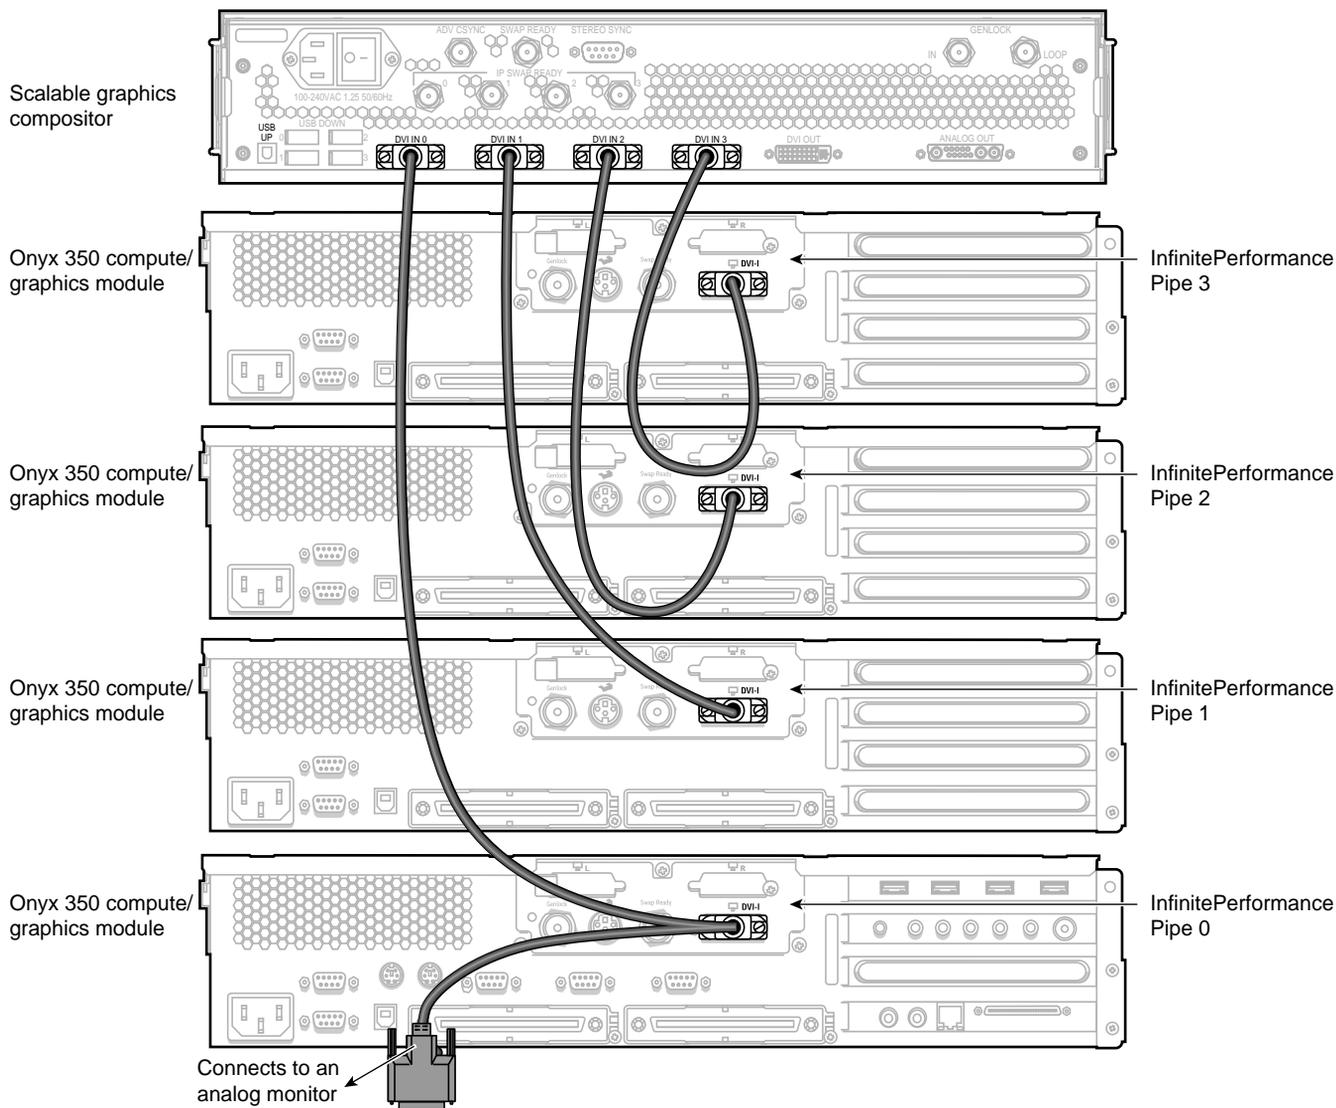

Figure 3-5 Connecting the DVI Connectors
4. Using the DVI-I splitter cable and DVI single-link cables, connect the DVI connectors of the InfinitePerformance pipes to the compositor DVI connectors in the following order (as shown in Figure 3-5):
- b. If you are connecting to an analog monitor, first make sure that your analog monitor is powered off and not connected to a power source. Then connect the ANALOG OUT connector on the compositor to an analog monitor. You can also connect the ANALOG OUT side of the DVI-I splitter cable, from the InfinitePerformance pipe, to an analog monitor (see Figure 3-5).
11. Press the compositor power switch to the ON (I) position.